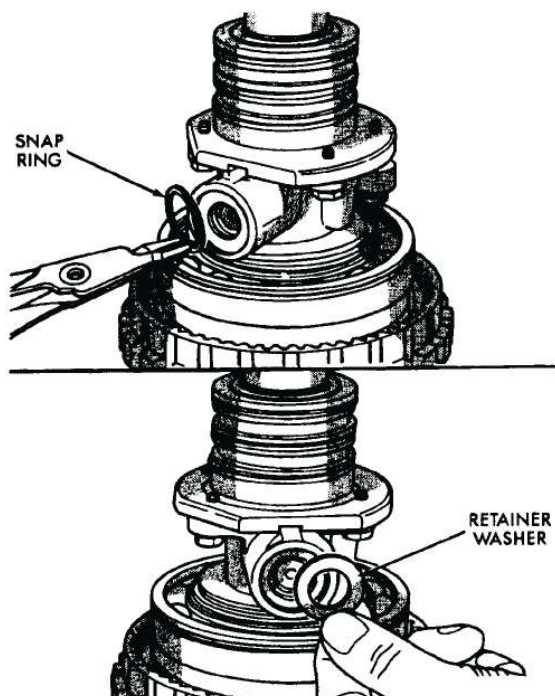
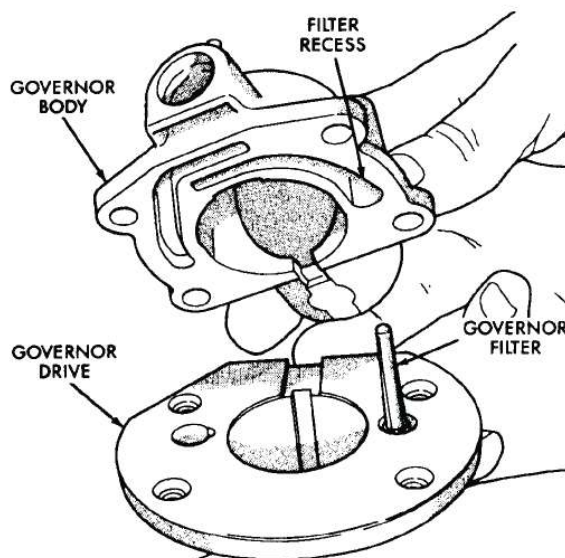
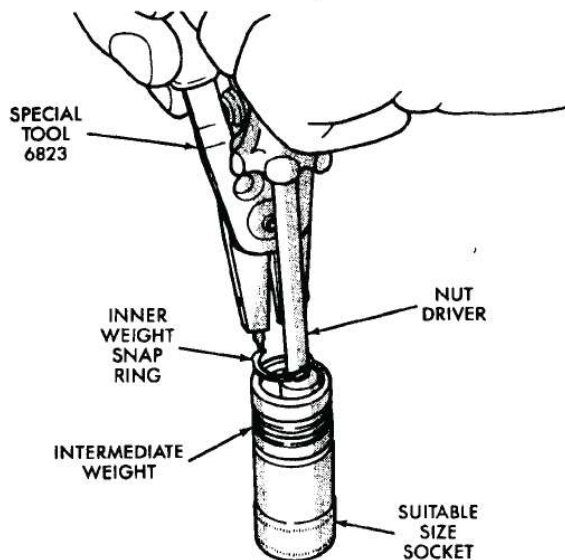

Fig. 38 Governor Weight Retainer Washer And Snap Ring Removal
Fig. 40 Governor Body And Filter Position (On Drive)
Fig. 41 Inner Weight Snap Ring Removal/Installation
- (1) Remove snap ring and washer that retain governor weight assembly in governor body (Fig. 38).
- (2) Remove governor weight assembly from governor body.
- (3) Note position of governor body on drive.
- (4) Clamp edge of governor drive in vise and loosen governor body bolts.
- (5) Remove bolts attaching governor body to drive.
- (6) Remove governor body (Fig. 40).
- (7) Remove filter from governor drive. Note position of filter for assembly reference (Fig. 40).
- (8) Disassemble governor weight:
- (b) Position intermediate weight on suitable size socket (Fig. 41).
- (c) Press inner weight downward with nutdriver or similar tool (Fig. 41). Then remove inner weight snap ring with Plier Tool 6823 (Fig. 41).
(2) Insert filter in governor drive. Filter goes in hole to right of key slot as shown in Figure 40.
(3) Align and position governor body on drive. Be sure filter is seated in recess in governor body (Fig. 40).
(4) Install and tighten governor body bolts snug but not to specified torque at this time.